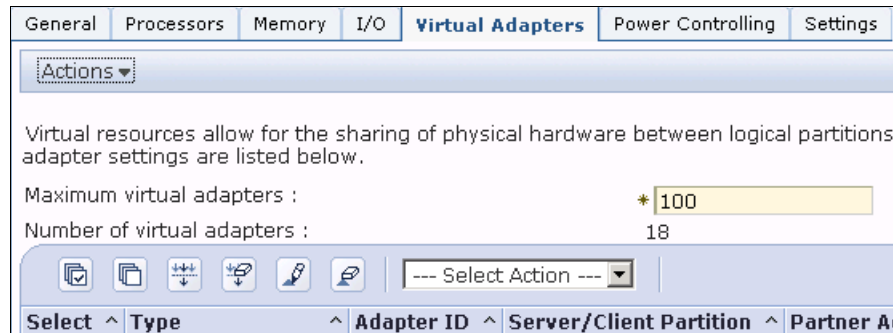

Figure 3-19 VIOS virtual adapter configuration
- Click the **Virtual Adapters** tab to create the virtual adapters for this partition, as shown in Figure 3-19. Click **Actions** → **Create Virtual Adapter** → **Ethernet Adapter**.